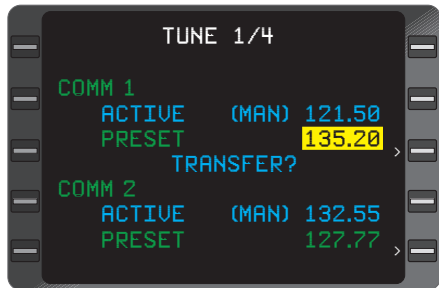

Figure 2-66
The information for each Comm radio. (Figure 2-66)
**(MAN)** in this field indicates the frequency was manually entered via the control head (Figure 2-66). If the **(MAN)** field is blank, the system was tuned via the CDU keyboard.
The pilot can enter and store a frequency in this field through the keyboard. (Figure 2-66)
The displayed **PRESET** frequency can be transferred to **ACTIVE** when the **ENTER** key is depressed. The control head will reflect this change. (Figure 2-66)